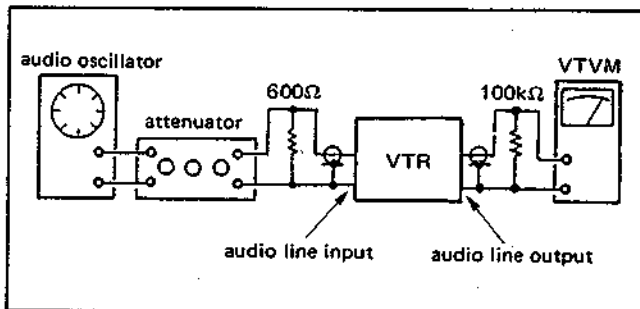

Fig. 2-22 Connections
The connections of the equipment to the input/output terminals are shown in Fig. 2-22.
- (1) Terminate the audio line output terminal with a 100kΩ resistor and connect a VTVM.
- (2) Play back the 5kHz signal segment of the alignment tape (KR5-2H).
- (3) Adjust the azimuth adjustment screw on the audio head for a maximum VTVM reading. (See Fig. 2-22).